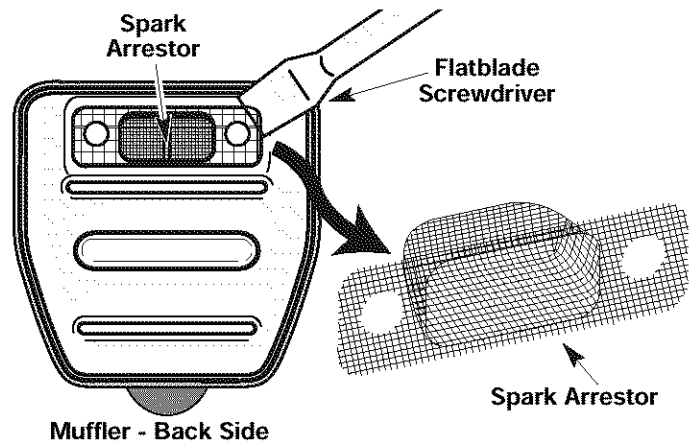

Fig. 32
4. Using a small flatblade screwdriver, carefully pry up the spark arrester from the recessed hole (Fig. 32). Remove the spark arrester from muffler.
5. Clean the spark arrester with a wire brush. Replace it if it is damaged or if it is impossible to clean thoroughly (Fig. 32).